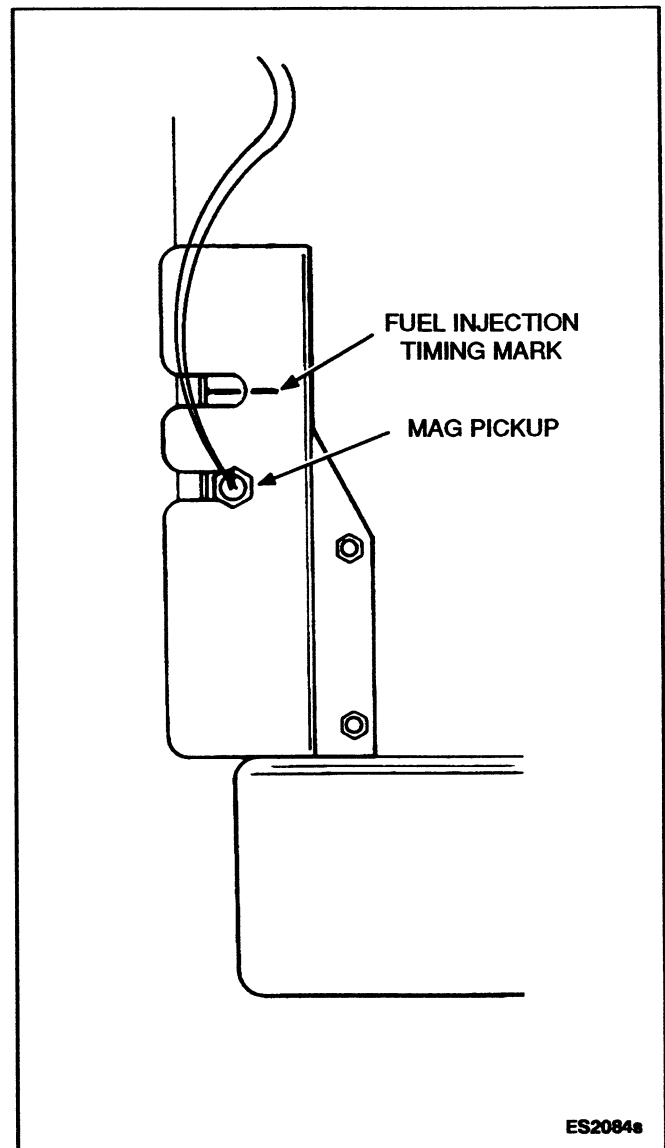

FIGURE 6-4. MAG PICKUP AND TIMING MARK
**To set the mag pickup gap:** Loosen the locking nut and rotate the mag pickup clockwise until it rests against the ring gear. Then rotate it counter-clockwise 3/4 to 1 turn and secure with lock nut. Be careful not to allow the mag pickup to rotate while the lock nut is being tightened. (Figure 6-4).
This section is a supplement to the information provided in the engine manual. Refer to Figure 6-4 for the location of the fuel injection timing mark.